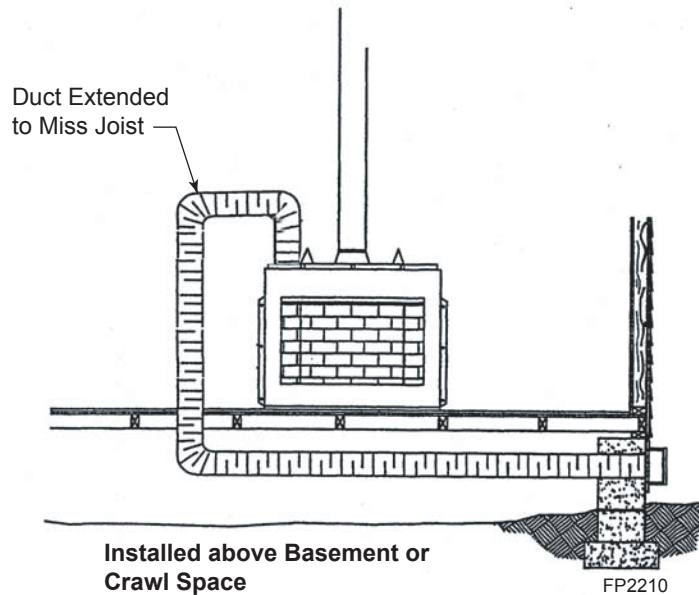

Figure 12
1. Avoid extremely long runs and numerous turns in duct leading from fireplace to combustion air assembly. These conditions increase the resistance to free flow of air through duct. *Figures 12 and 13*
4. Combustion air may be drawn from crawl space under house when adequate supply of air is provided by open ventilation. *Figure 12*